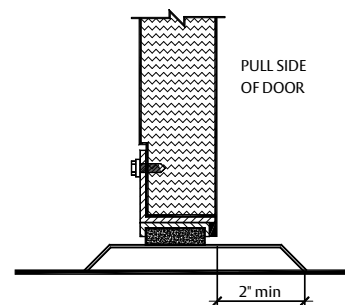
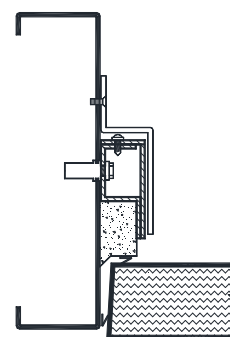

FIGURE 5
FIGURE 6
- 3. Install the L-Frame door bottom seal (Fig. 5) with the 1/4-20 machine bolts provided and then adjust it to the highest position.** At this point, all other mortised and surface applied hardware supplied by others can also be installed. Note that heavy duty offset hardware mounting brackets (Fig. 6) are provided for all hardware intended to be mounted to the frame stop. No hardware should be mounted directly to the seal assembly. Prior to installation of perimeter seals, check the door for proper clearances (1/8" at edges, meeting stiles and top). The weight of these doors often requires minor shimming of hinges in order to square them in the opening and slotted metal shims which can be placed under the hinge are provided for this purpose.
Install all perimeter seal retainers through the elongated slots with the 1/4-20 machine bolts provided, beginning with the jamb retainers and then the head retainers and slide them to a point farthest away from the door. Install the EPDM rubber Sound Tight seals into the retainers beginning at the top and bottom corners, working toward the center then trim any excess at the bottom. Note that the small V-shaped leg of the seal must be toward the door. Finally adhere the two sets of Pemko S44 adhesive backed seals (Fig. 6), one set applied to the area between the frame stop and the door and one set applied toward the outside of the frame rabbet as shown in the detail. It's important that the seals are installed properly.